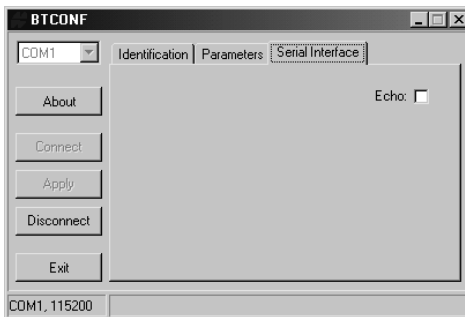

Figure 3-15. BTCONF Serial Interface Tab
8. Click the *Serial Interface* tab (Figure 3-15). Enable **Echo** to display Bluetooth module replies and corresponding commands on the computer terminal. If needed, click **Apply**.